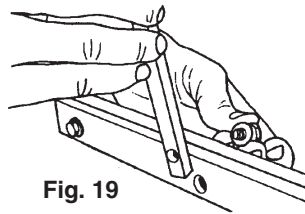

Fig. 19
with a washer (3) and bolt (2). Finger tighten. See Fig. 19.